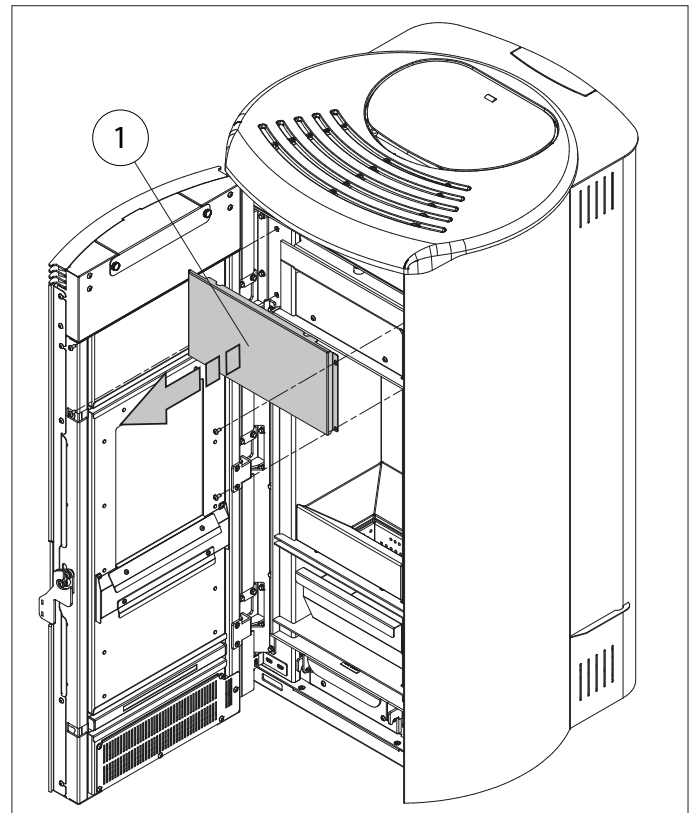

Fig. 6.3a
- Open the door, loosen the fixing screws of the front panel (1) and remove it (**Fig. 6.3a**), to access the vent valve.